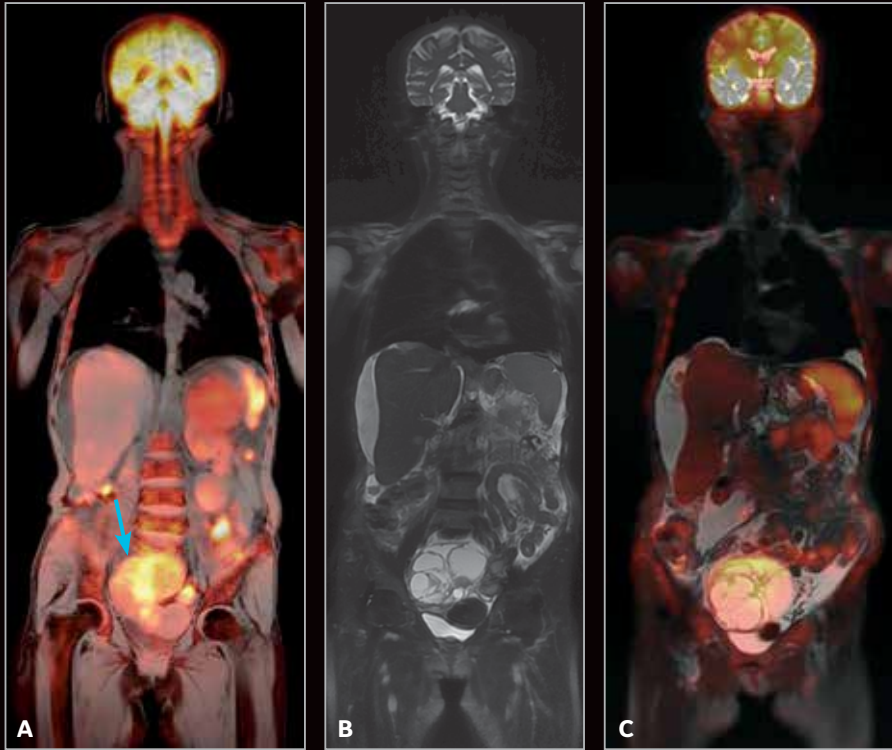

Figure 4. (A) Coronal LAVA Flex and DWI fused; (B) coronal T2 SSFSE FatSat; and (C) coronal T2 SSFSE FatSat and DWI fused.
Figure 4. Non-contrast aortic imaging. (A) Coronal 2D FIESTA FatSat, scan time 15 sec.; (B) axial 2D FIESTA FatSat, scan time 16 sec.; (C) axial 2D FIESTA Cine; (D, E) axial CT demonstrating metal artifact (arrows) from an endovascular graft; (F) coronal CT; (G) sagittal CT.